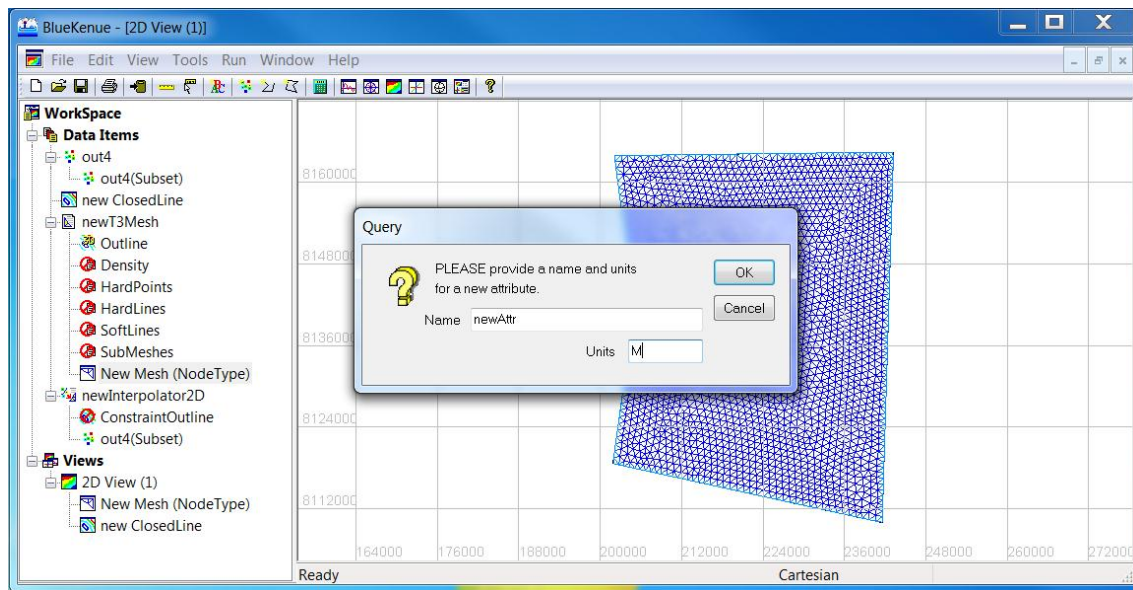

Figure A114: Give a new name and choose put M for units.
13. Give name, put M for units (Figure A114) Page 94